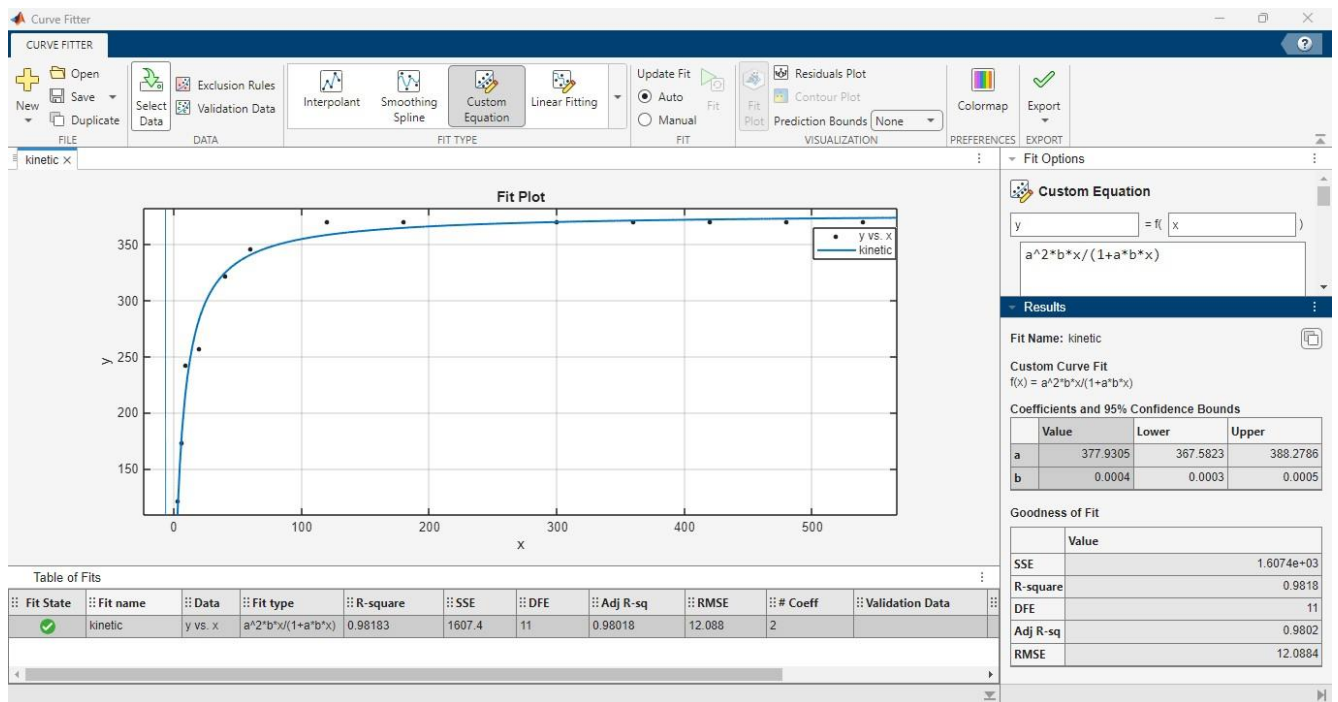

Figure 13S. Graph and parameters from nonlinear regression of pseudo-second order kinetics in Matlab using the curve fit tool
- The adjusted parameter values and statistical data appear under results and table of fits, located on the right side and below the graph, respectively (Figure 13S).